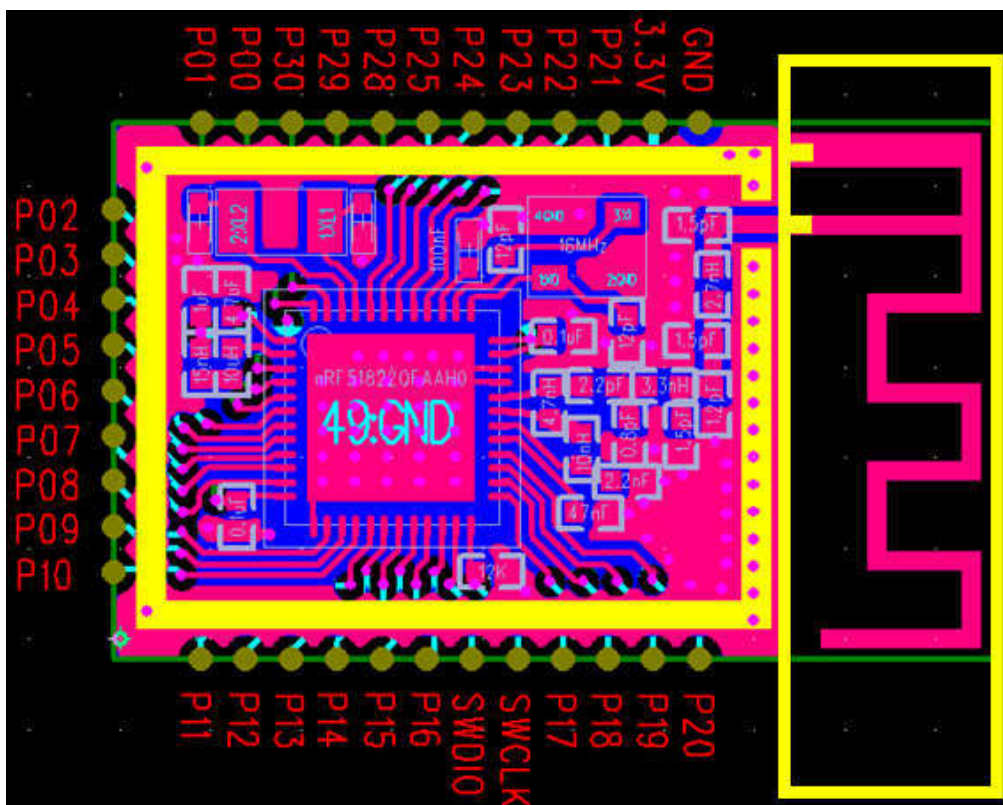

Figure 4
3. Better hollow out the yellow boxed area in figure 4, to ensure S11 affects little.